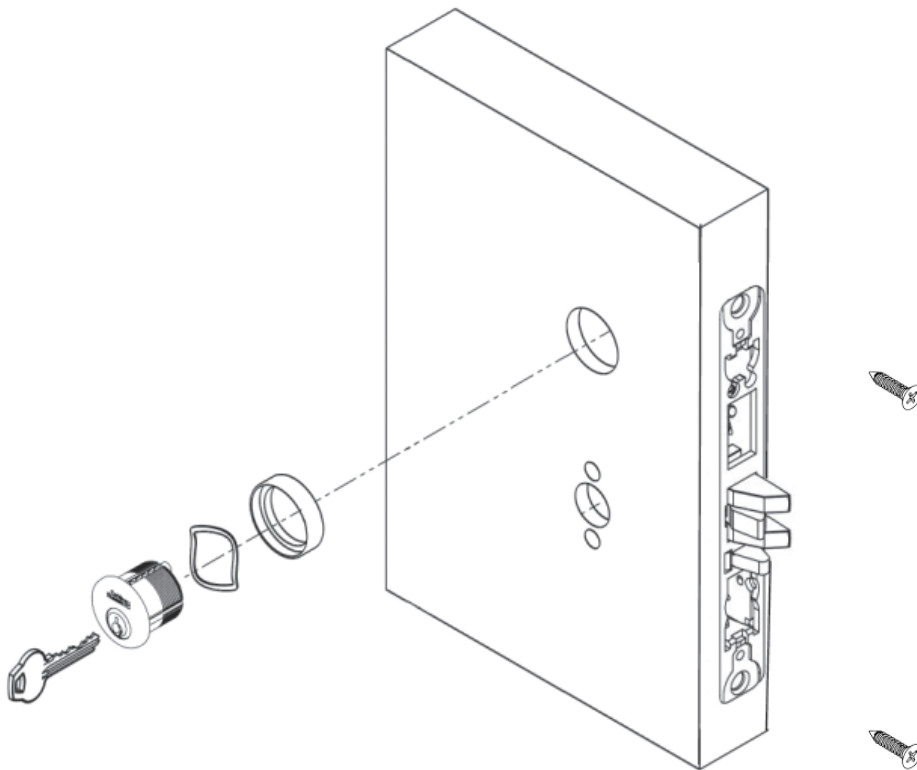

Figure 8
1. Secure with cylinder set screw (Figure 8).